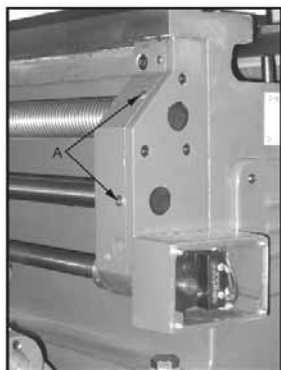

Fig. 6
4. **Leadscrew & Feed Rod**: Lubricate two ball oilers on the right side bracket (A, Fig. 6) with Mobil DTE® Oil Heavy Medium oil daily.